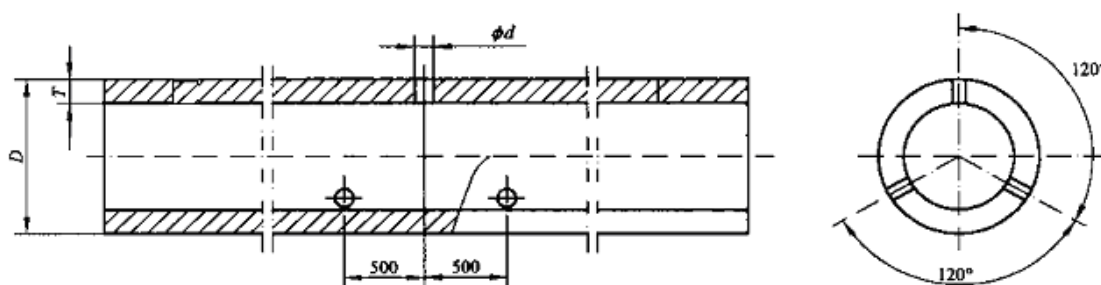

Figure 4-6 Through-drilled holes
5. Concentricity setting: let the sample pipe go through the probe at normal testing speed (adjust appropriately the electric current for the magnetizer). Requirements for the sample pipe: manufacture three through-drilled holes in the middle of the pipe, distributed symmetrically along circumferential direction with distance of  $120^{\circ} \pm 5^{\circ}$ , and not less than 200mm distance along axial direction, see Figure 4-6.